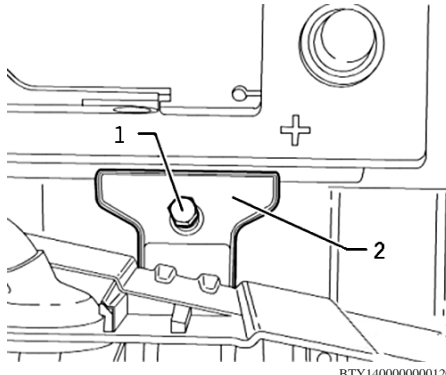

Fig. 8 Bottom rail bracket removal
14. Remove bolt (1) and battery bottom rail bracket (2), **Fig. 8**.
2. Install bottom rail bracket (2) and **torque** bolt (1) to 89 inch lbs., **Fig. 8**.